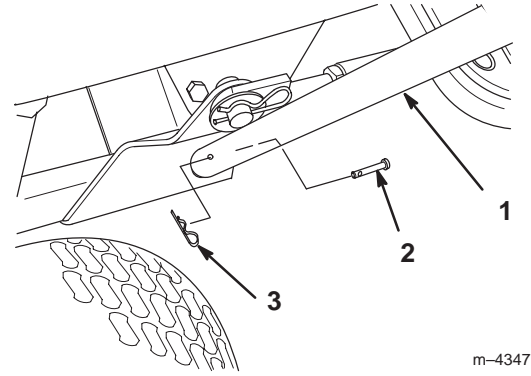
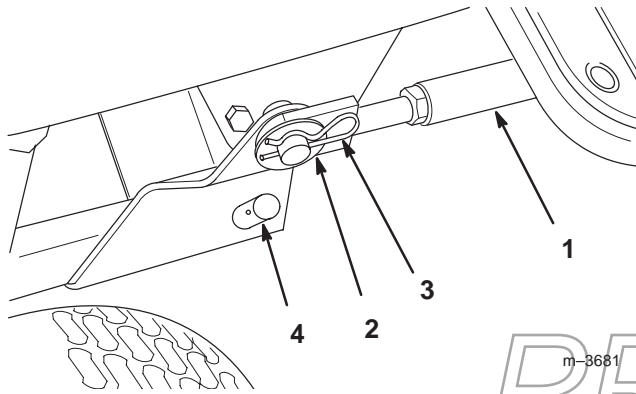

Figure 23
Figure 22
15. Secure the other ends of the support braces to the frame rods protruding from the mid Attach-A-Matic™ hitch with a 15/16" (24 mm) washer and a large hairpin cotter (Fig. 22). You may need to turn the adjuster of each brace before the holes in the adjuster align with the frame rod.
16. Slide the crank support onto the mounting post on the left-hand side of the tractor (Fig. 22). Secure it in position with a locking pin and small hairpin cotter (Fig. 23).